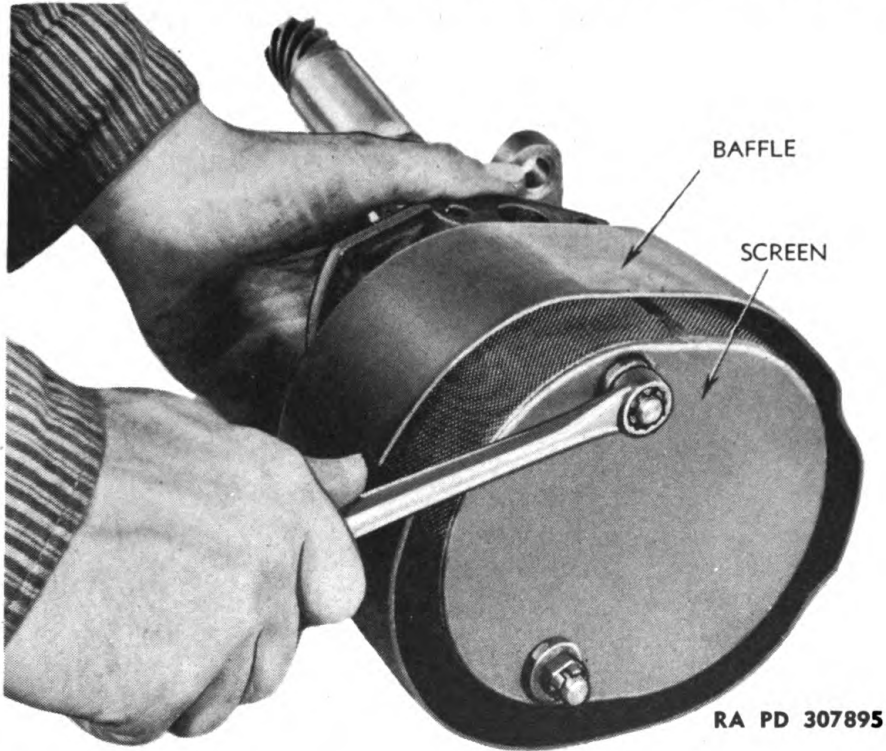
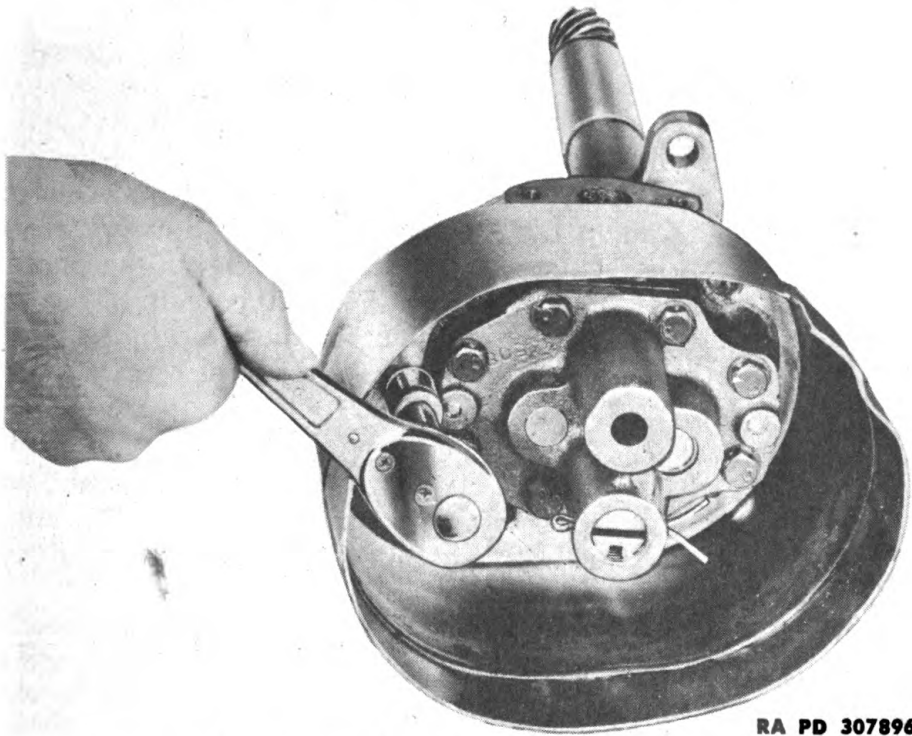

Figure 88 — Removing Oil Pump Screen
Figure 89 — Removing Oil Pump Screen Baffle
(1) **REMOVE SCREEN AND BAFFLE.** Pull cotter pins and remove the two slotted nuts from screen retaining studs (fig. 88), and draw screen from studs. Cut lock wire, remove three cap screws (fig. 89) and remove the screen baffle.
(6) **INSTALL BAFFLE AND SCREEN.** Use new attaching gasket and install baffle on pump as shown in figure 89 with three cap screws with copper washers. Thread lock wire through heads of cap screws and twist ends. Install the two screen retaining studs into bottom cover. Slip the screen into place over the two studs and install washers and slotted nuts on studs to secure screen (fig. 88). Install cotter pins through nuts and studs.